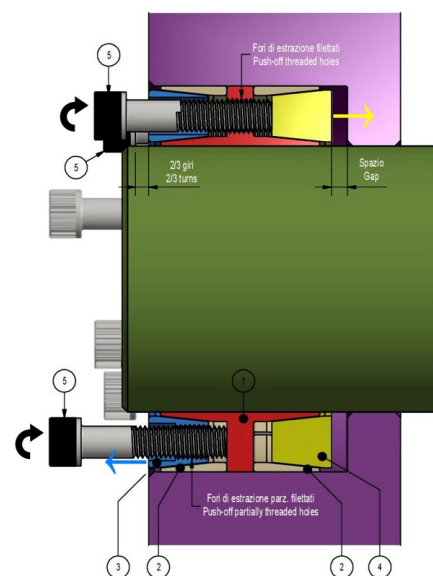

Fig. 2
2. For ease of installation, thrust rings shall be disengaged (fig. 2). Loosen all screws by two/three turns; then transfer and hand tighten at least two screws into the push-off threaded holes in the front thrust ring and at least two screws into the push-off threaded holes in the inner ring, accessible via corresponding clearance holes in the front thrust ring.
3. Insert Locking Assembly into the hub bore and make it slide onto the shaft, making sure that connected components are positioned as required. **Inner respectively outer rings shall be completely supported by shaft respectively hub bore (fig. 2).** At this point, relocate the screws used to disengage the thrust rings. Installation into hubs with shoulder requires a few mm's gap between rear thrust ring and shoulder (fig. 2).